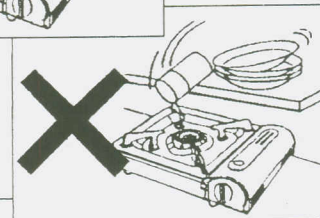

Fig.18
3. Do not place below a shelf or in a place with a danger of falling objects. (Fig. 18)